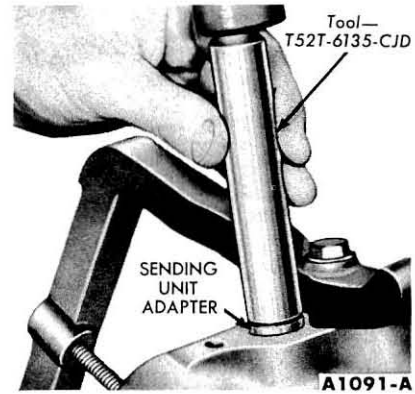

FIG. 23—Sending Unit Adapter Installation
3. Install the adapter with the undercut toward the inside of the cylinder head. Drive the adapter in until it is flush with the casting surface (Fig. 23).